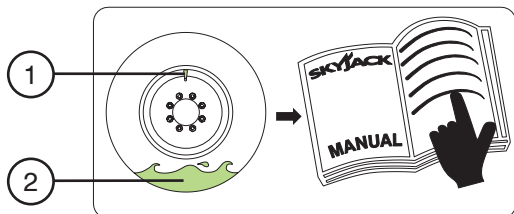

Figure 3-6. Tire Sealant Label
- When depressurizing, inflating or checking tire pressure, ensure that the valve stem is at the top to prevent sealant from entering the stem (refer to Figure 3-6).